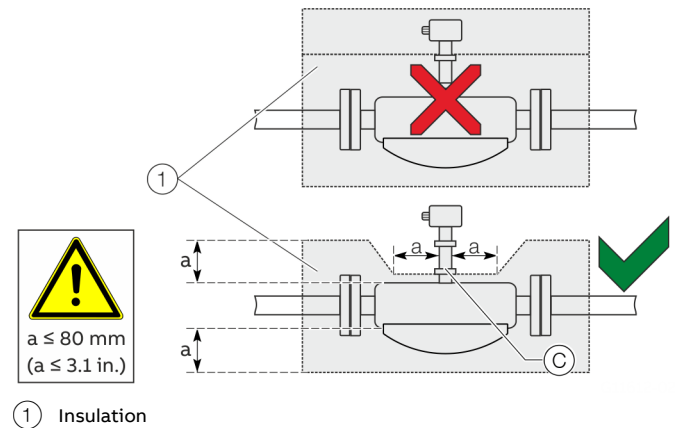

Figure 7: Installation at $T_{\text{medium}} -50^{\circ}\text{ to }205^{\circ}\text{ C } (-58 \text{ to } 400^{\circ}\text{ F})$
The sensor may only be insulated in conjunction with the option TE1 'Extended tower length for sensor insulation' or TE2 'Extended tower length – insulation capacity with dual gasket,' as shown in Figure 7.
When operating the sensor in conjunction with heat tracing, the temperature at point (C) (Figure 7) $100^{\circ}\text{ C } (212^{\circ}\text{ F})$ may not be exceeded at any time!